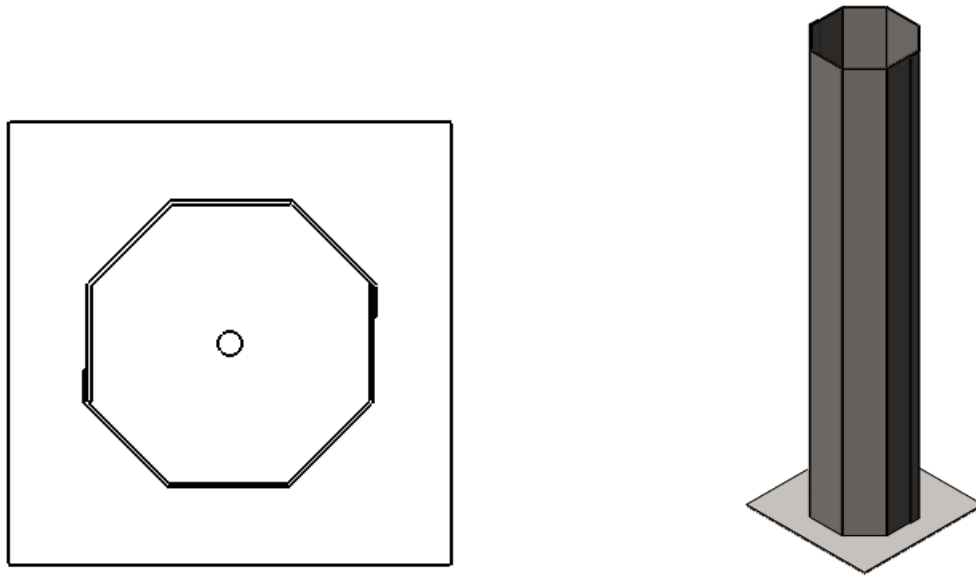

Figure 2 - Ground Sleeve
1. Using a Large Lift, set the assembled poles into the ground sleeves with the Netting tab toward the field of play, Perpendicular to the End Line (Figure 2).